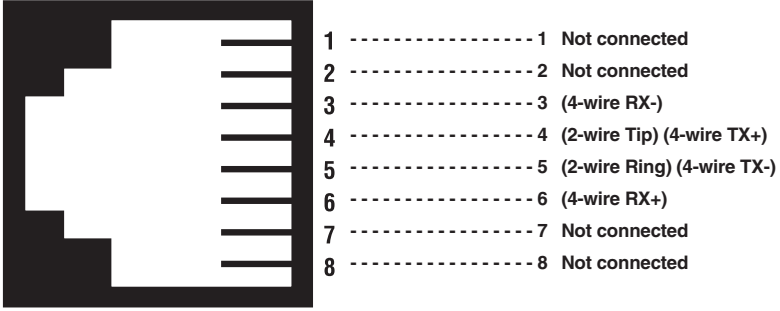

Figure E-7. RJ-45 line interface.
2. To function properly, the rear card needs one or two twisted pairs of metallic wire (2- or 4-wire). The twisted pairs must be unconditioned, dry, metallic wire, between 19 (0.9 mm) and 26 AWG (0.4 mm). Standard dial-up telephone circuits that run through signal equalization equipment, or standard, flat modular telephone type cable are *not* acceptable. See Figure E-7.